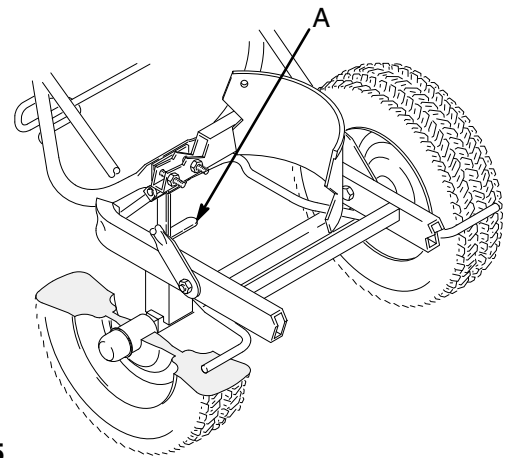

Fig. 5
12. To use the wheel brake, lift the brake handle (A—bottom rear of cart) to engage the brake. Lower the handle to disengage the break. See Fig. 5. For positive break engagement, be sure there is proper tire pressure and that tire wear is not excessive.